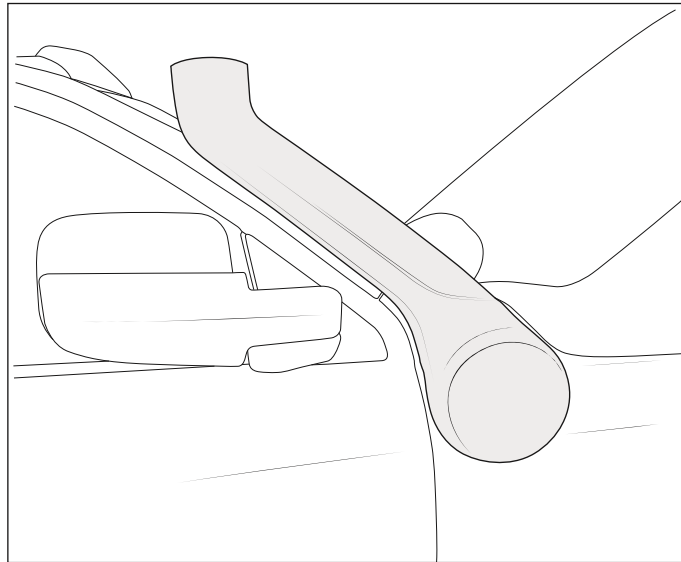

Figure 11
3. Bring the assembled fender and snorkel body back to the truck and ensure that it is sitting against the fender and the A-pillar appropriately (fig. 11).